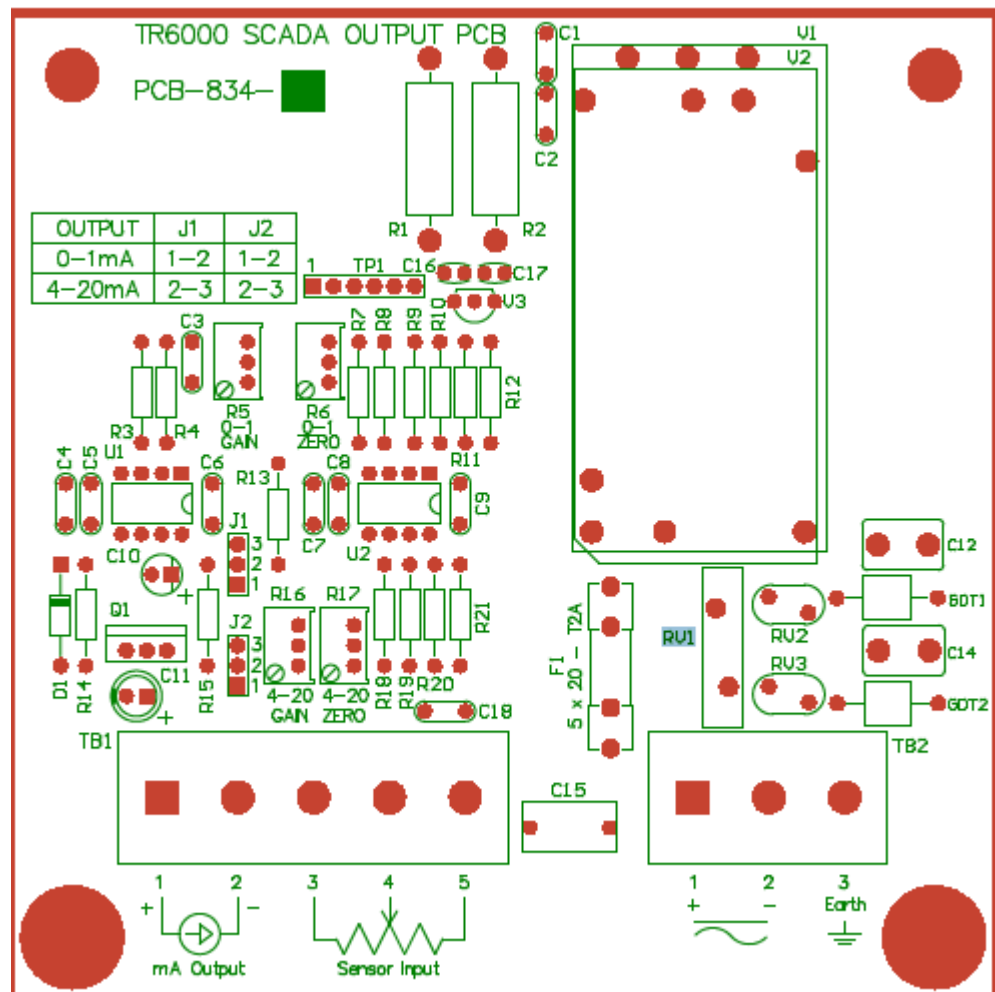

Figure 1. SCADA board view
- Mains power wiring to TB2 is shown in Figure 1. “Neutral” may be above earth potential. 16 or 14 AWG stranded wire shall be used. If wired to a DC source, use position 1 for +.
- There is one fuse that provides mains circuit protection; 2A time delay, 5 x 20 mm, 250V rating. Marked F1 in Figure 1.
- Connect current sensing device to connector TB1 with polarity as shown in Figure 1. Attach the shield wire ONLY at the left/bottom printed circuit hold down screw using a ring or fork terminal. Single point shield attach/grounding shall be made.